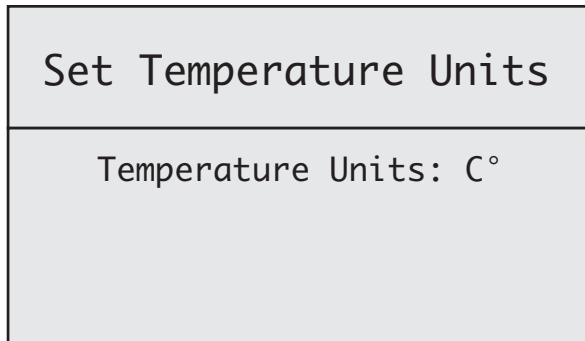

Figure 25
2. Using the **SCROLL DOWN** key, move down to option 3: "SET TEMPERATURE UNITS". Press **ENTER** again to move into the "SET TEMPERATURE UNITS" screen. **SEE FIGURE 25.**